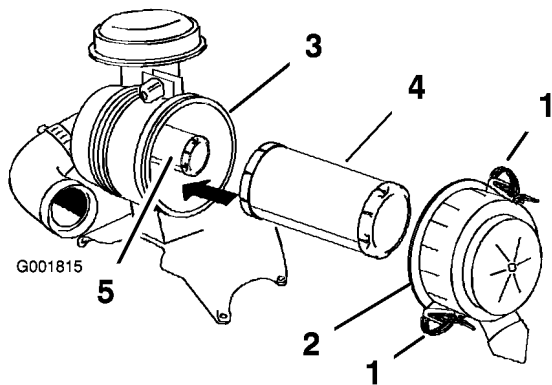

Figure 37
3. Release the latches on the air cleaner and pull the air cleaner cover off of the air cleaner body (Figure 37).
- Gently slide the primary filter out of the air cleaner body (Figure 37). Avoid knocking the filter into the side of the body.
- If the safety filter is being replaced, carefully slide it into the filter body (Figure 37).
- Carefully slide the primary filter over the safety filter (Figure 37). Ensure that it is fully seated by pushing on the outer rim of the filter while installing it.
- Install the air cleaner cover with the side indicated as **UP** facing up and secure the latches (Figure 37).